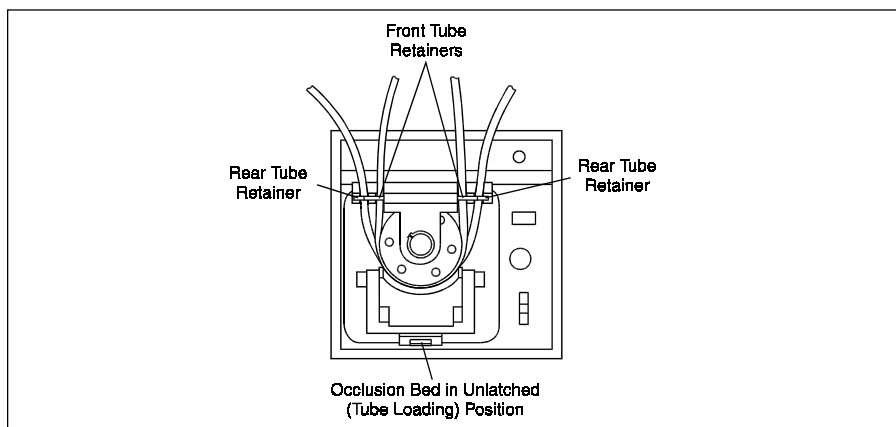

Figure 4. Occlusion Bed in Unlatched Tube Loading Position
2. Press down on the Occlusion Bed Latch, Figure 4, to release the Occlusion Bed from the rotor.